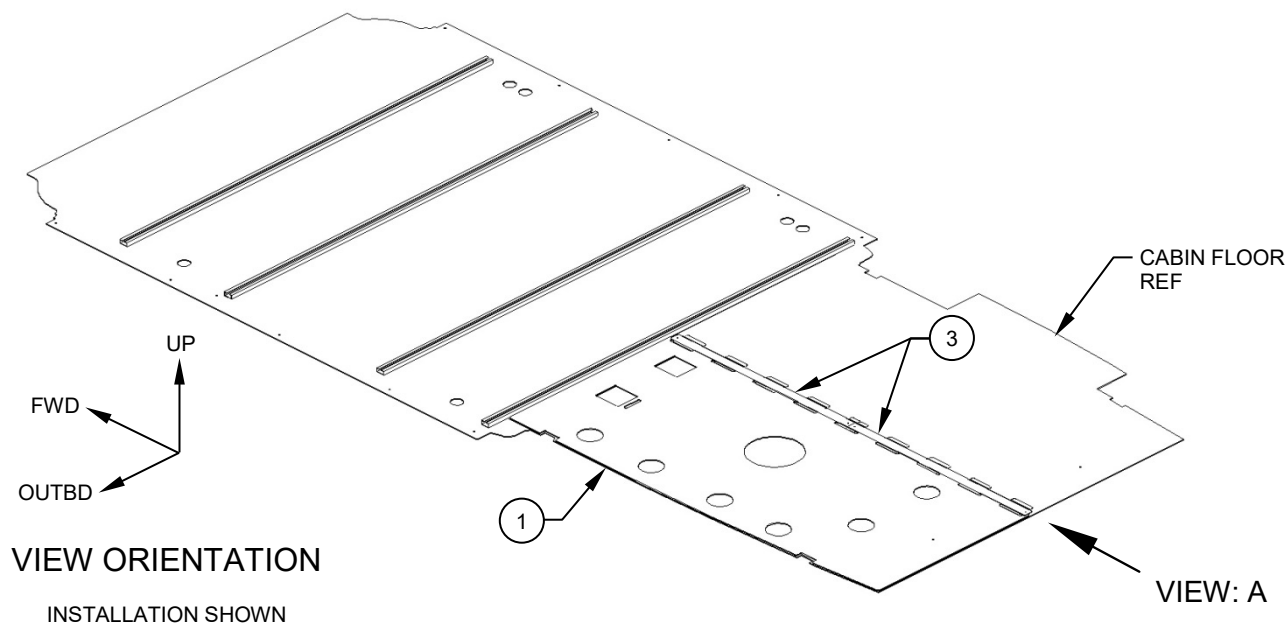

Figure 11
2. Remove the LHS Panel Assy (Item 1) from the floor as shown. Reference Figure 11.